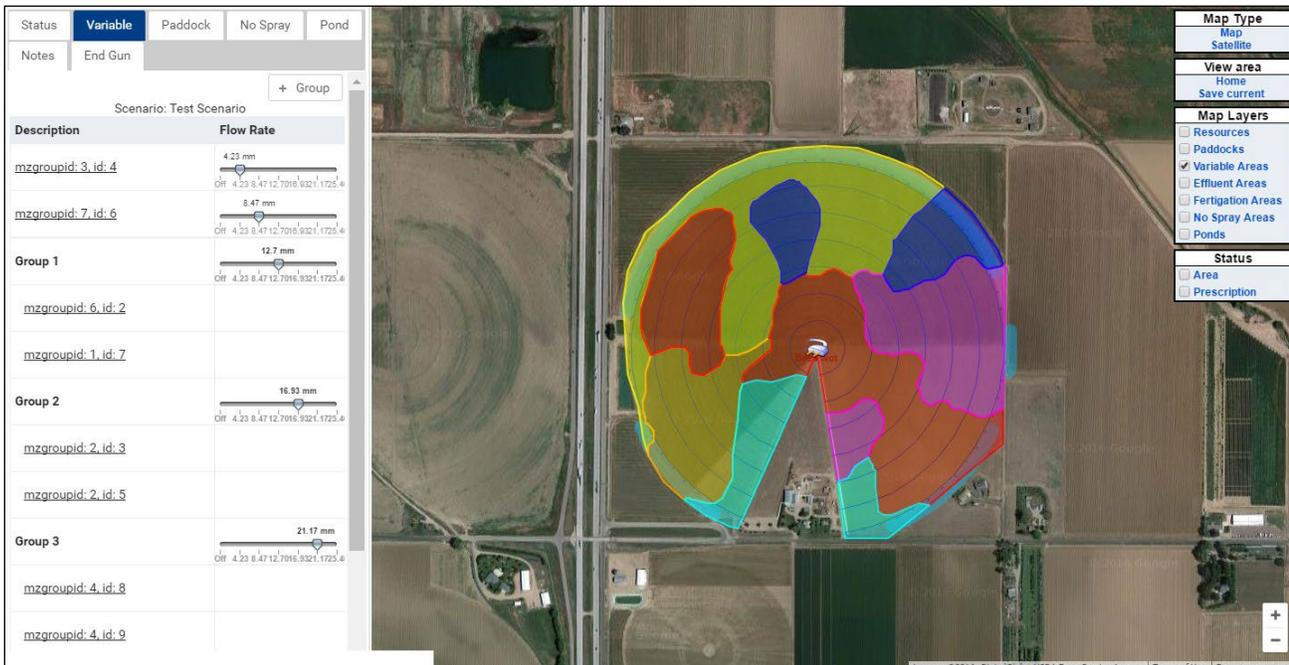

Figure 26-2
1. Navigate to the area tab in which you would like to assign a depth. Refer to Figure 26-2.